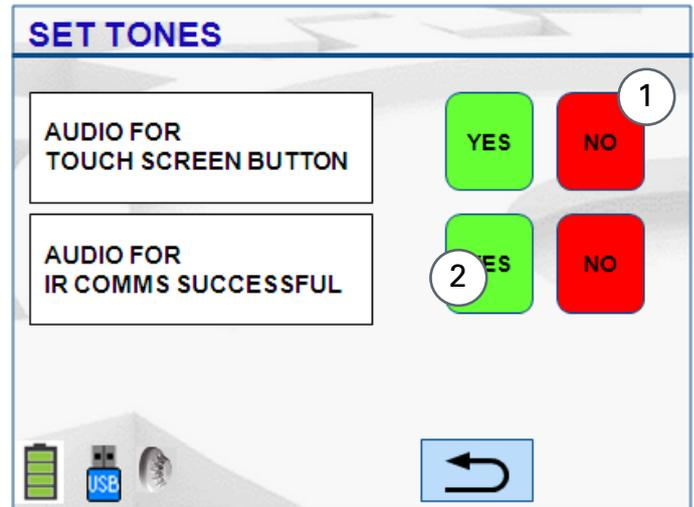

Fig. 29: Set Tones
- Set Tones: To set audible indications for touch screen operation and successful IR communications. Press this button, the following screen appears as shown in Figure 29.